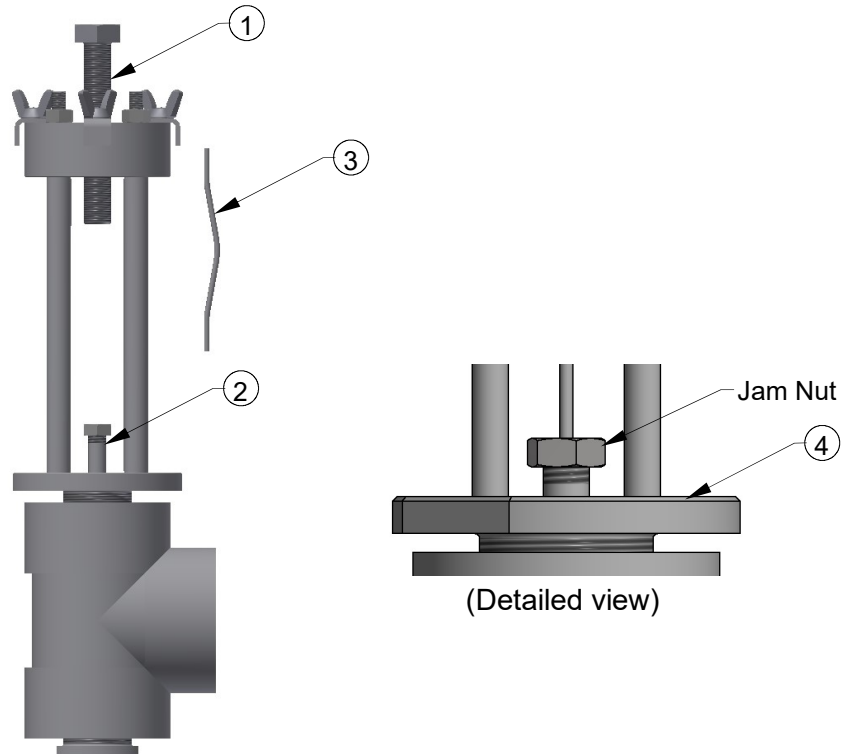

Figure 4: Shipping Pin/Buckled Pin Removal
3. The valve is in closed position with an inactivated Buckling Pin, "such as shipping pin", the Adjuster screw (Item 1 of Figure 4) need to be unscrewed counterclockwise until the shipping pin can be removed using the 1-1/4" wrench size. Throw away shipping pin.